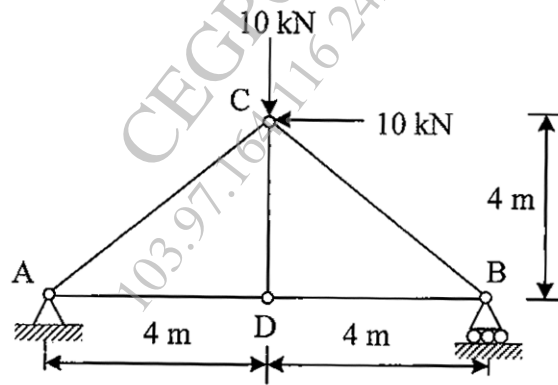

Fig. 1
3. (a) Find the vertical displacement of joint D for the pin jointed truss as shown in Fig. 1. The cross-sectional area of the members AD, DB and CD is 1500 mm^2 and the areas of the members AC and BC are 2000 mm^2 each. Take $E = 200 \text{ kN/mm}^2$. [6]